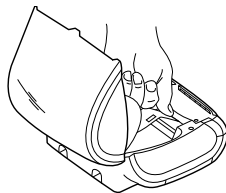

Figure 10
- Align the left edge of the label with the left edge of the label feed slot and insert the label into the slot. See Figure 10.